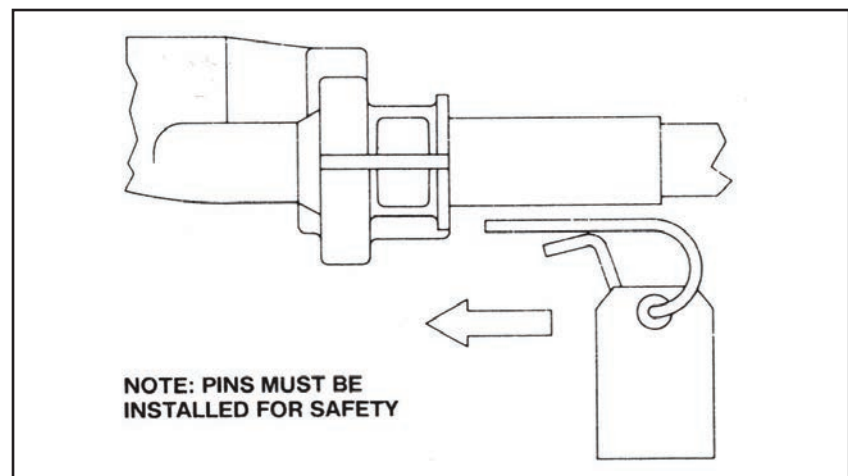

Figure 7.
STEP 3. Replace the pin as shown in Figure 7, making sure that it is fully seated. *Do not remove tag from pin.*
STEP 4. Replace the pins as shown in Figure 7, making sure that they are fully seated. If one pin cannot be inserted, that cable is not fully seated in the helm. Push on the cable to ensure that it is fully home. Replace pins as shown in Figure 7. *Do not remove tags from pins.*
STEP 5. Feed the Spent Travel Tubes (item 2) over the exposed cable ends and thread the Retaining Nuts onto spigots. Tighten nuts hand tight.